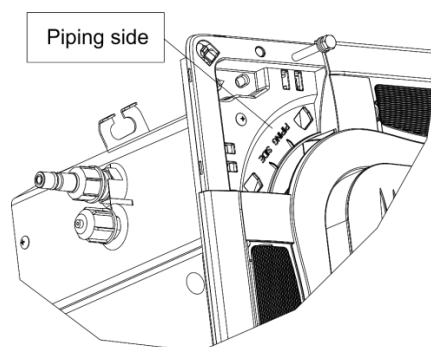

Fig.4.4.4
- (1) Detach the panel's Corner Cap, there is a mark "piping side" on one of the 4 corners, adjust the panel direction so as to keep the mark and fittings on the same corner, as shown in Fig. 4.4.4